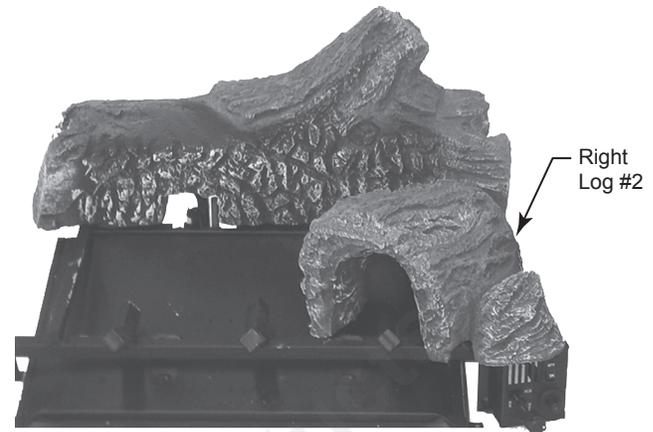

Figure 11
2. Install the right log (#2) on top of the control cover. Slide the log back until touching the rear log (#1). Visually check to verify the log is resting on the grate and control cover. *Figure 11*